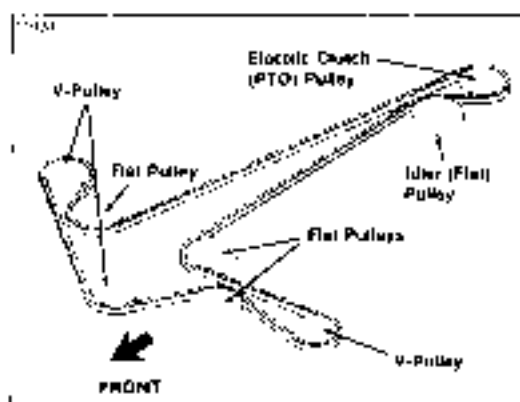

Figure 32. Mower Belt Pattern
2. Check belt pattern as shown in figure 32. Make sure mower belt goes under both rollers over the drive axle.
8. Pull belt up from fly and place onto the transfer stop pulley (D, figure 32)
10. Remove a tab on the side of fan (E, figure 32) if cutting a hole when fan is installed. Install fan with original hardware
11. Install cones (A, figure 32) with two screws at top and two screws at bottom
12. Release parking brake to check belt stop adjustment. There should be 1/16 to 1/8 inch clearance between belt and belt stops. Two belt stops are shown in figure 30. Also check belt stop (A, figure 32) if it is missed on pulley. To adjust, loosen mounting hardware, position belt stop, and then tighten hardware